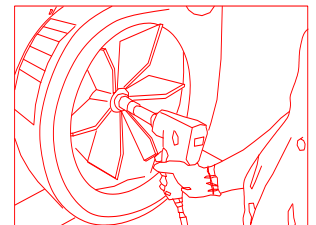

Fig. 6
4. Remove the intake housing assembly (item 16) by removing six locknuts (item 44). Be careful to place intake assembly to the side without putting excess strain on safety switch wire harness.
5. Remove impeller bolt (item 34), lock washer (item 35), and spacer (item 37) using 5/8" socket and impact wrench (see Fig. 6).